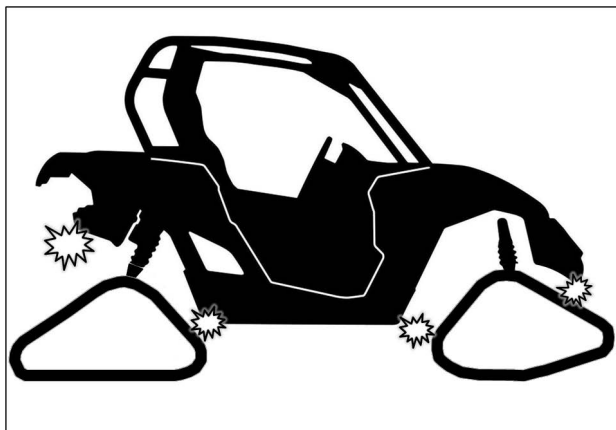

Fig. 30
2. Verify for possible contact between Track System and lower fender corners. See Fig. 30